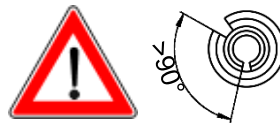

Figure 3
- Then push-in the second smaller dowel pin into the thicker one. Take care that the slots are not in line and both dowel pins do not overlap (Figure 3).